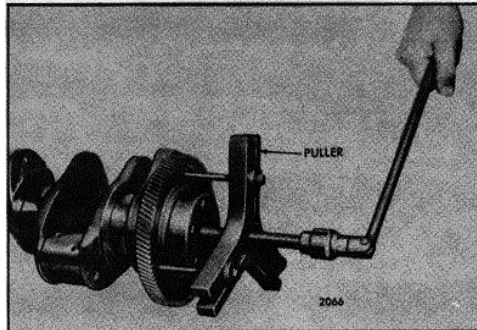

Figure 1. Removing Crankshaft Timing Gear
3. Attach bar type puller J 4871 to the crankshaft gear with three long bolts or hooks, flat washers and nuts through the holes in the gear as shown in Fig. 1.